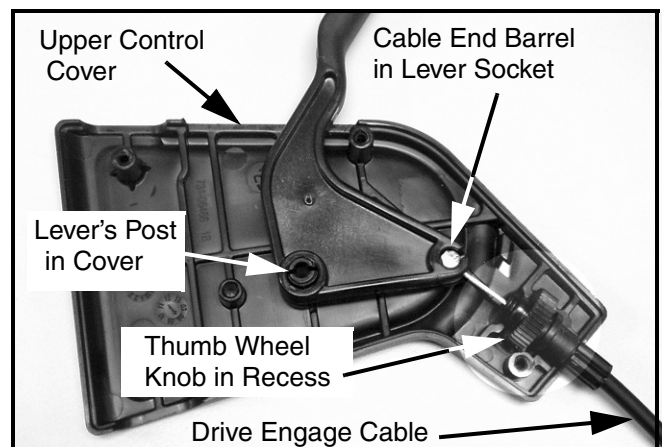

FIGURE 2
6. Install the new Drive Engage Lever, Item 2, onto the lever's post in the upper cover half as shown in Figure 2.
7. Take the existing drive engage and install the barrel end into the Control Lever socket as shown in Figure 2.
8. Place the drive engage cable's thumb wheel knob into the Upper Control Cover recess as shown in Figure 2.